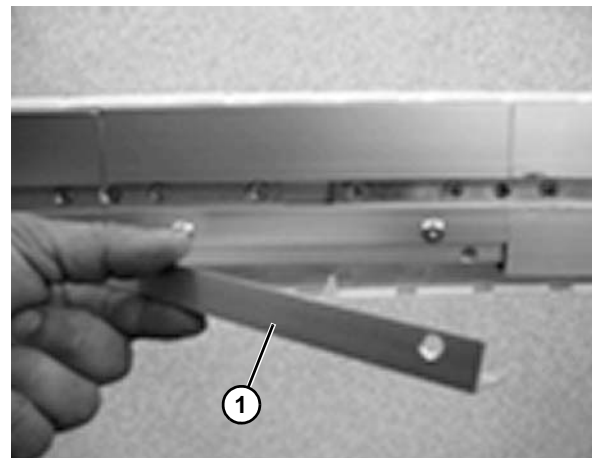

Figure 56
2. Remove the flange (**Figure 56, item 1**) so that the chain becomes accessible.